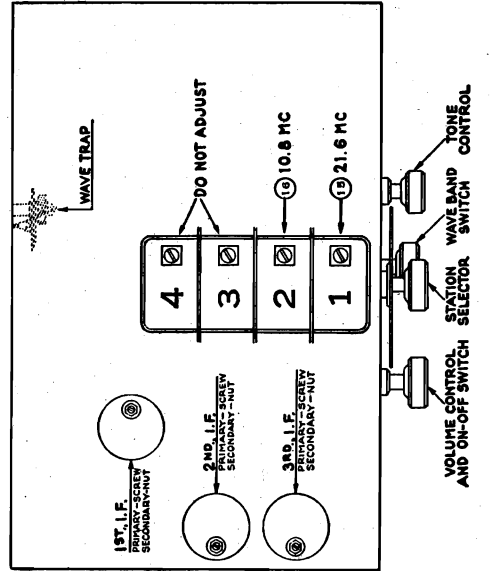

FIG. 2—Position of Compensating Condensers Reached from Above Chassis
Connect the output meter to the primary terminals of the output transformer. Set the signal generator at 460 K.C. (the intermediate frequency of Model 34) and adjust each of the I.F. compensating condensers in turn, to give maximum response in the output of the receiver. The location of the I.F. compensating condensers is shown in Figure 2. Each of these transformers has a dual compensating condenser mounted at its top, and accessible thru a hole in the top of the coil shield. In the dual compensators, the Primary circuit is adjusted by turning the screw; the Secondary circuit is adjusted by turning the hex-head nut.
2—ADJUSTMENT OF THE WAVE TRAP—Replace the grid clip upon the Detector-Oscillator tube (Type IC6). Connect the output leads from the signal generator directly to the antenna and ground terminals of the receiver. Set the Wave-Band Switch of the receiver to the standard broadcast band (Range 1) and the Station Selector at the low frequency (520 K.C.) end. Adjust the Wave Trap ② condenser to give MINIMUM response to a 460 K.C. signal from the signal generator. The Wave Trap ② is located at rear and underneath the chassis, and is shown in Figures 2 and 5. It is reached from the rear of the chassis.